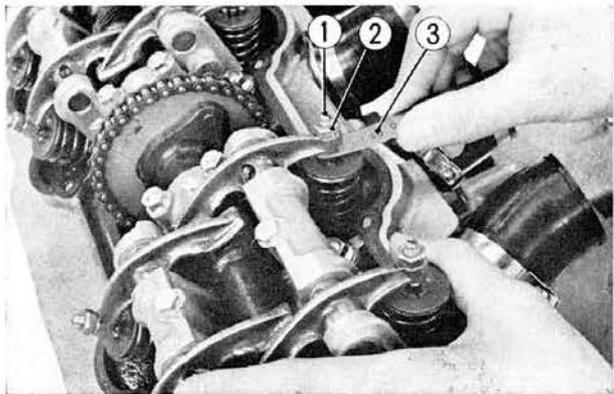

Fig. 3-57 ① Valve tappet adjusting screw
b. Check the clearance of both valves by inserting the thickness gauge, provided in the tool kit, between the tappet adjusting screw and the valve stem. If clearance is correct, there will be slight drag or resistance as the gauge is inserted. If clearance is too small or large, adjustment is necessary. (Fig. 3-57)